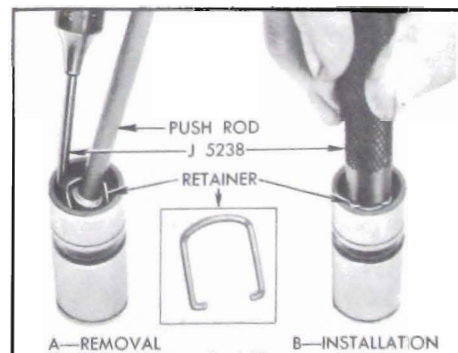

Figure 2-41—Removing and Installing Plunger Retainer
1. Disassemble each valve lifter by using a push rod to hold down the push rod seat while removing the plunger retainer from the lifter body, using Retainer Remover J-5238. See Figure 2-41, View A. Remove push rod seat and plunger from lifter body.
with handle of Remover J-5238 until retainer engages groove in body. See Figure 2-41, View B.